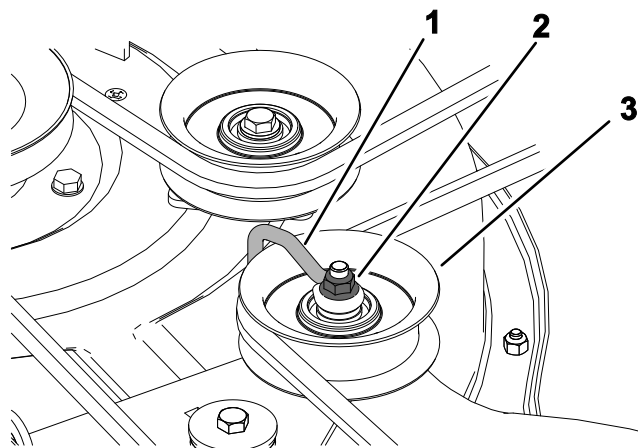

Figure 56
6. For stamped decks, loosen the nut securing the wire form to the idler pulley (Figure 56).
Note: Position the wire form against the idler arm as shown in Figure 56.